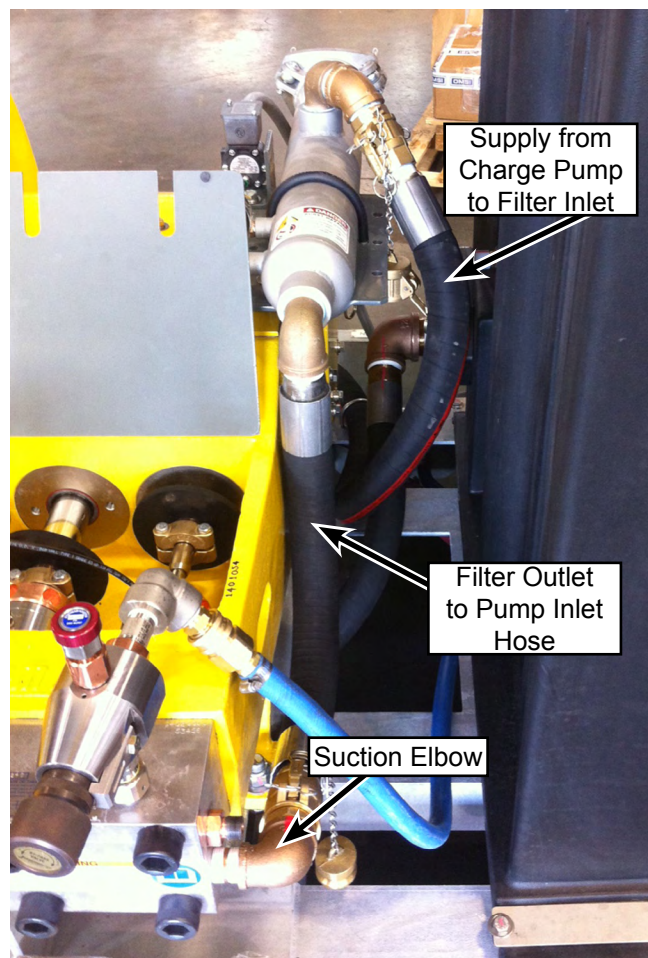

Figure 48: 40K Connection Layout (Typical)
3. Remove the plug from the filter outlet hose. Connect the hose to the elbow on the 40K manifold. (Figure 48)